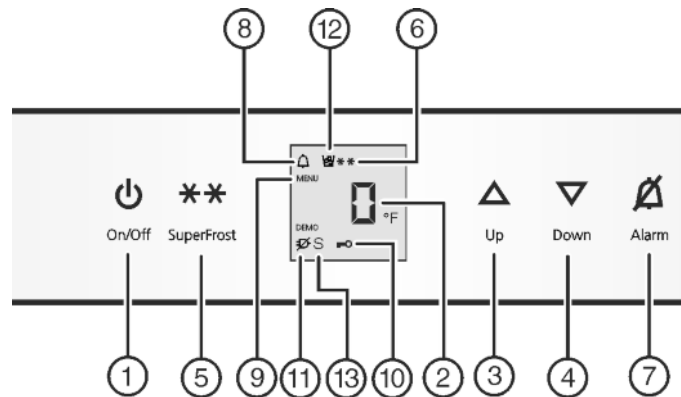

Fig. 2
- Press On/Off button Fig. 2 (1).
- ▶ Activate setting mode: Press SuperFrost button *Fig. 2 (5)* for about 5 seconds.
- ▷ The Menu symbol *Fig. 2 (9)* lights up.
- ▶ Using Up button *Fig. 2 (3)*/ Down button *Fig. 2 (4)* select °.
- ▶ To confirm: Briefly press SuperFrost button *Fig. 2 (5)*.
- ▶ Using Up button *Fig. 2 (3)*/ Down button *Fig. 2 (4)* select °F or °C.
- ▶ To exit setting mode: Press On/Off button *Fig. 2 (1)*.
- ▶ Activate setting mode: press and hold the SuperFrost button *Fig. 2 (5)* for approximately 5 s.
- ▶ Using the Up button *Fig. 2 (3)* or Down button *Fig. 2 (4)*, select c.
- ▶ Press the SuperFrost button *Fig. 2 (5)* briefly to confirm. When c| is shown on the display:
- ▶ To switch on the child-proof lock, press the SuperFrost button *Fig. 2 (5)* briefly.
- ▷ The Child safety symbol *Fig. 2 (10)* lights up. c flashes on the display.
- ▶ To switch off the child-proof lock, press the SuperFrost button *Fig. 2 (5)* briefly.
- ▷ The Child safety symbol *Fig. 2 (10)* goes out. c flashes on the display.
- ▶ Deactivate setting mode: press the On/Off button *Fig. 2 (1)*.
- ▶ Press Alarm button *Fig. 2 (7)*.
At the same time, the Alarm symbol *Fig. 2 (8)* will flash.
The audible warning automatically ceases, the Alarm symbol *Fig. 2 (8)* goes out, and the temperature display stops flashing when the temperature is cold enough again.